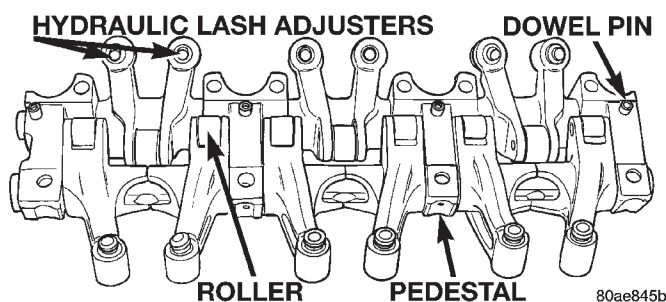

Fig. 106 Assemble Rocker Arms and Shaft
(1) Install the rocker arms, and pedestals onto the shaft.
(2) Install dowel pins (Fig. 106). Dowel pins pass through the pedestal into the exhaust rocker shafts. Dowel pins should be pressed in until they bottom-out against the rocker shaft in the pedestal.